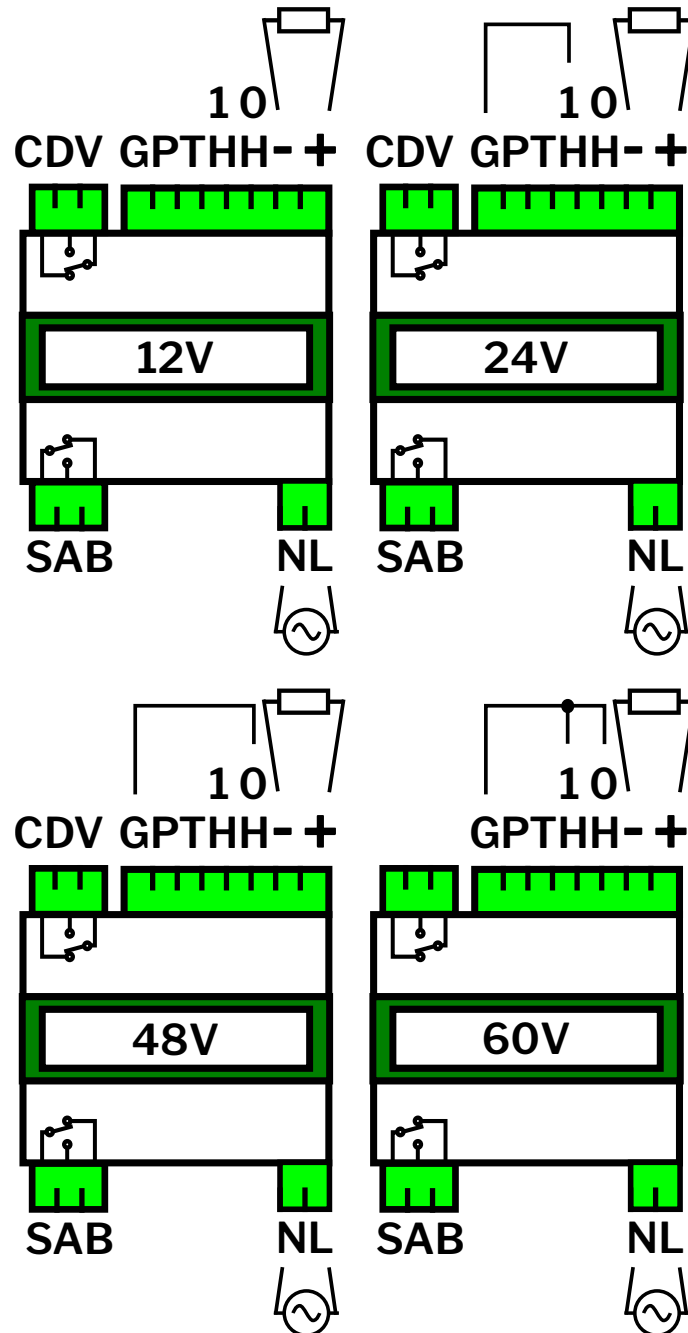

Figure 2: Connection diagram for obtaining different output voltages. The output voltages are denoted inside the subfigure.
Figure 2 showcases basic application scenarios employing the DIG-CCCV-15W-VAR. In these examples, the alternating current (AC) voltage source symbols the input, while resistor symbols represent the load.”